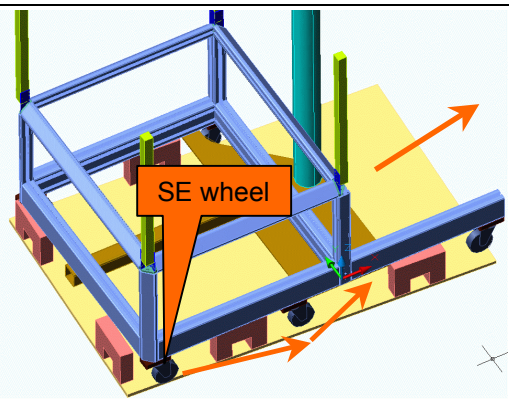

Figure 4:
- move the system 5 cm in north direction (fig. 4) until the carrier comes off the supporting blocks in the back (south)
- move the system in the north direction that the south eastern wheel makes a way as shown in fig. 4